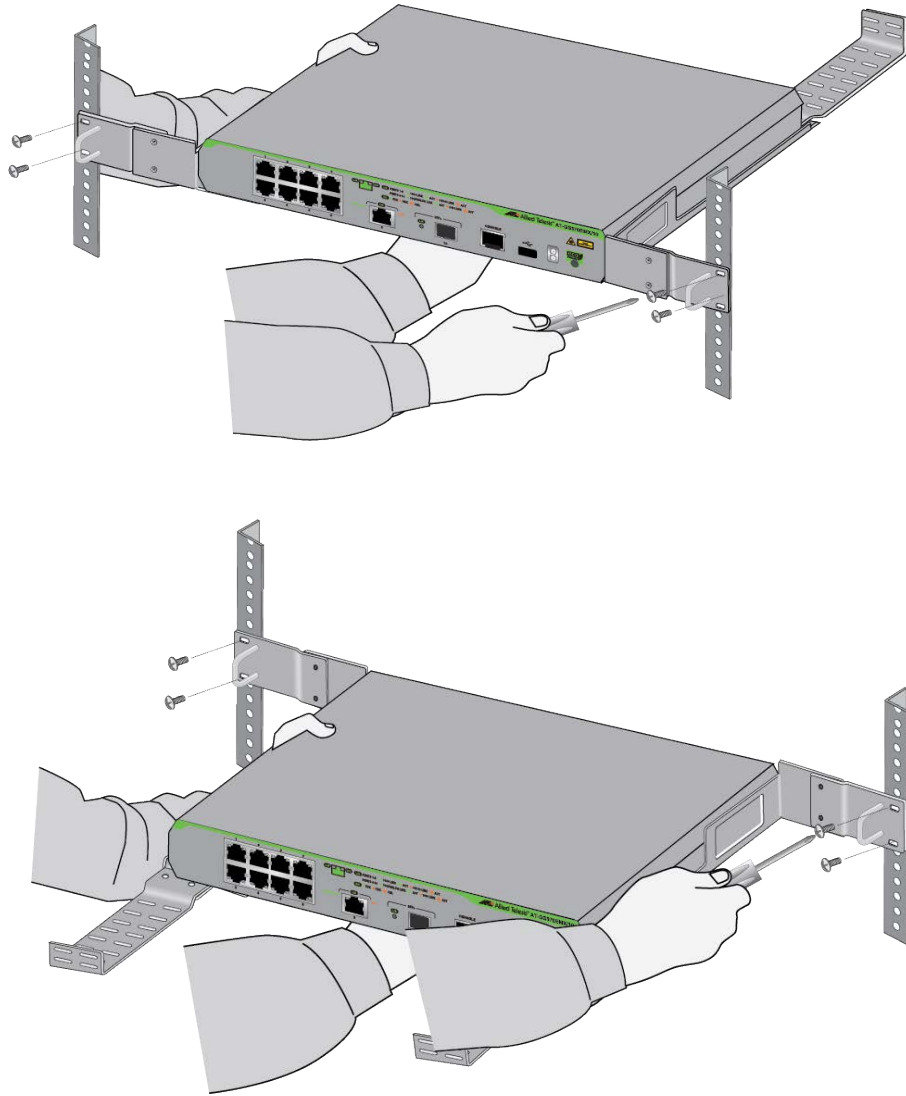

Figure 34. Attaching the GS970EMX/10 Switch to an Equipment Rack
8. Have another person hold the switch in the equipment rack while you secure it with four standard equipment rack screws (not provided). Refer to Figure 34.